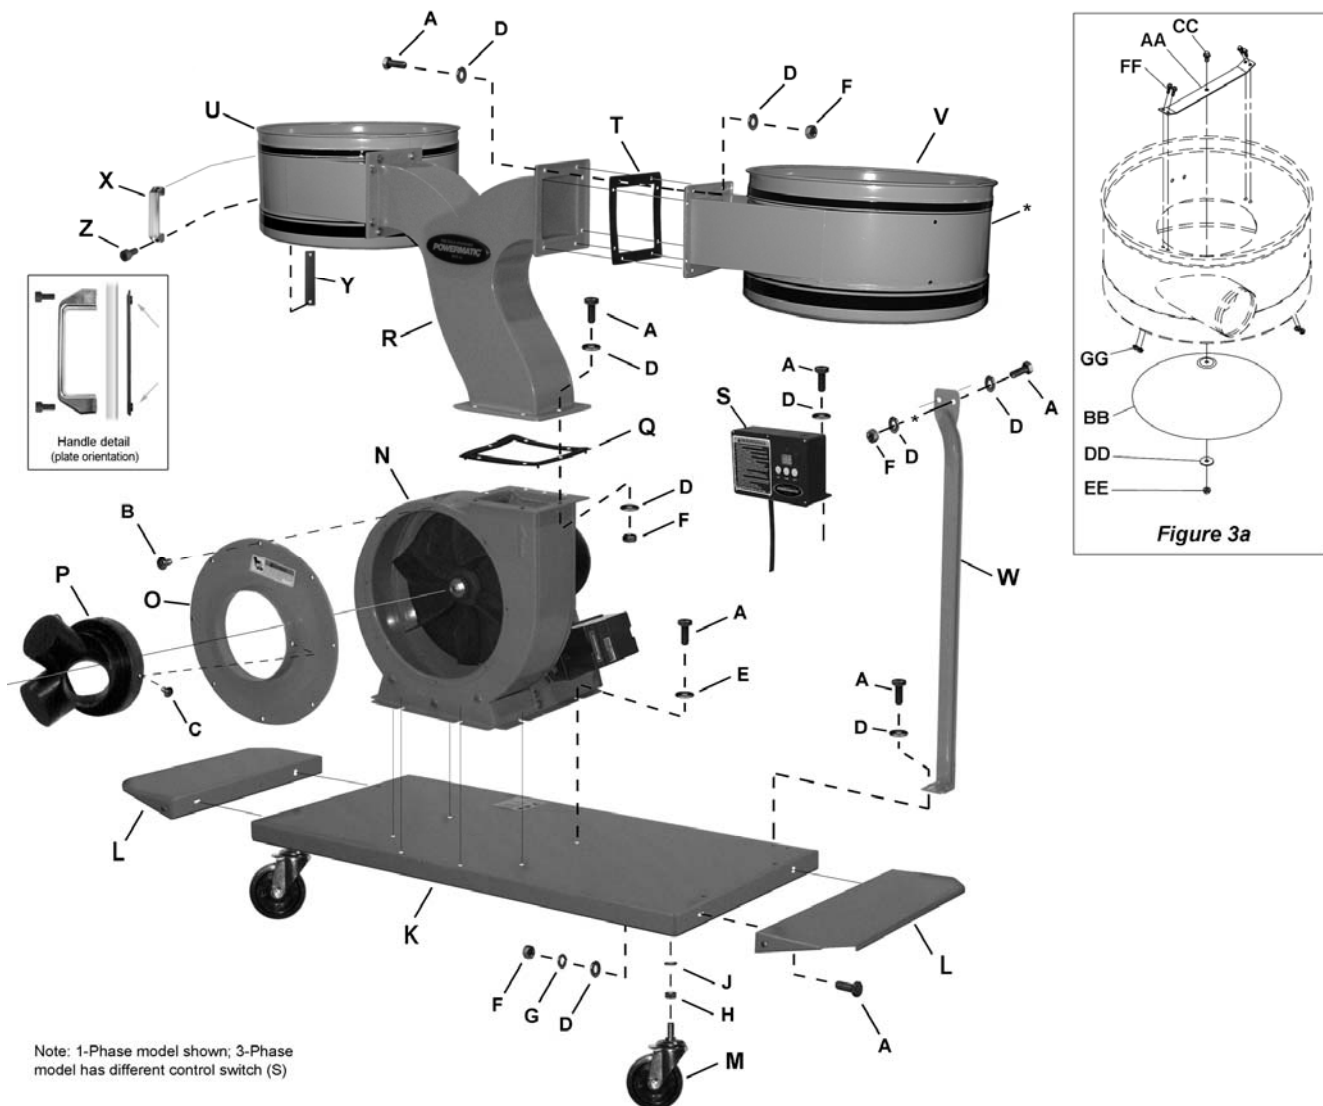

Figure 3: Assembly and part identification
All instructions on this page refer to Figure 3.
Note: Refer to Figure 3 to make sure that the connector tube is facing the proper direction.
1. Remove the *plate* (Y) from the *handle* (X) by loosening the two *socket head cap screws* (Z) with a 6mm hex wrench.
2. Install *handle* (X) to the holes in the *collector housing* (U) by inserting the socket head cap screws through the handle, the collector housing, and into the plate on the opposite side. Tighten the screws.
Note: Make sure the *plate* (Y) is oriented properly, as shown in the Detail in Figure 3: The protrusions on the plate should face away from the handle.